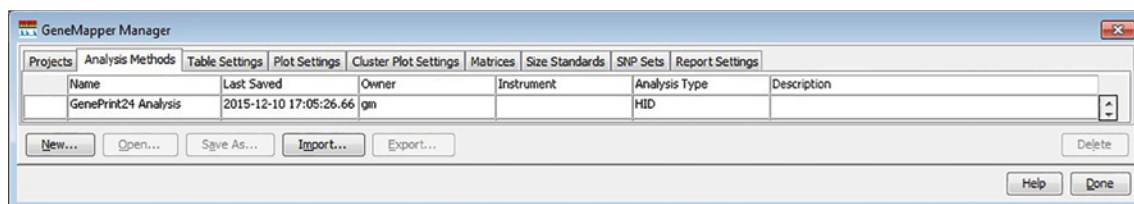

Figure 15. The *GenePrint*[®] 24 Analysis Method will have “HID” as the analysis type.
4. Note that this method will have “HID” as the analysis type (Figure 15).